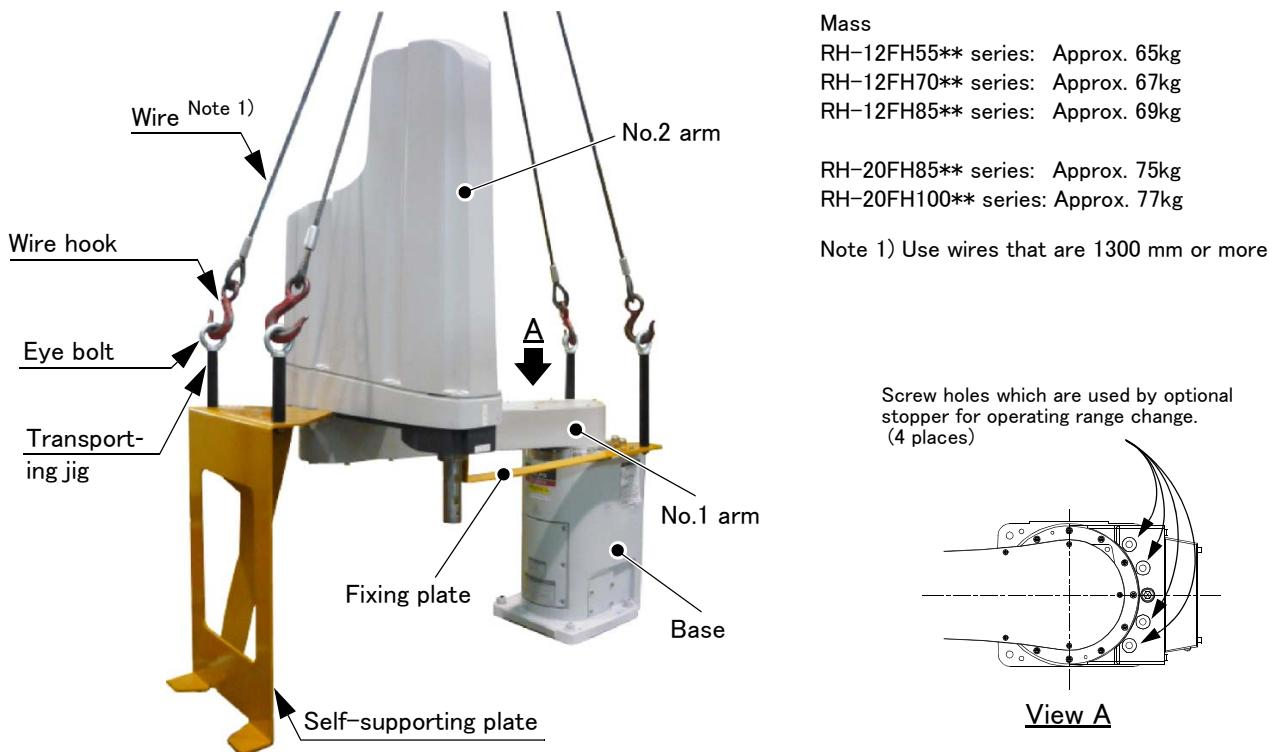

Fig.2-3 : Transportation of robot arm
- 5) After installing the robot (refer to Page 11, "2.2.3 Installation procedures"), remove the wires, the wire hooks (the robot will stand by itself as shown in Fig. 2-3), the self-supporting plate, transporting jig and fixing plate.